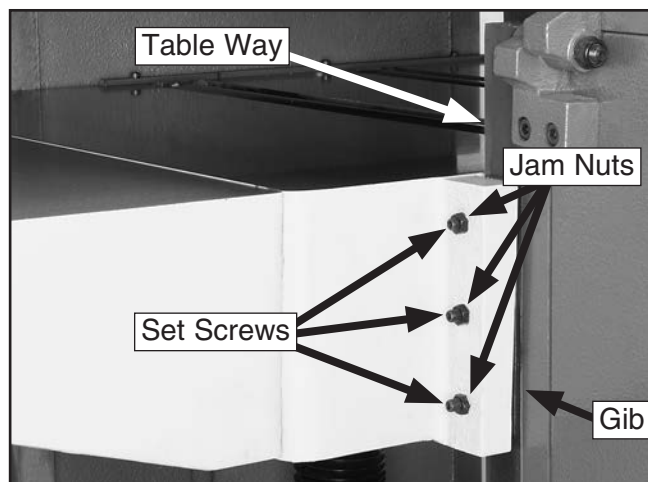

Figure 42. Table gib and way.
1. Loosen the gib jam nuts on the table (see **Figure 42**).